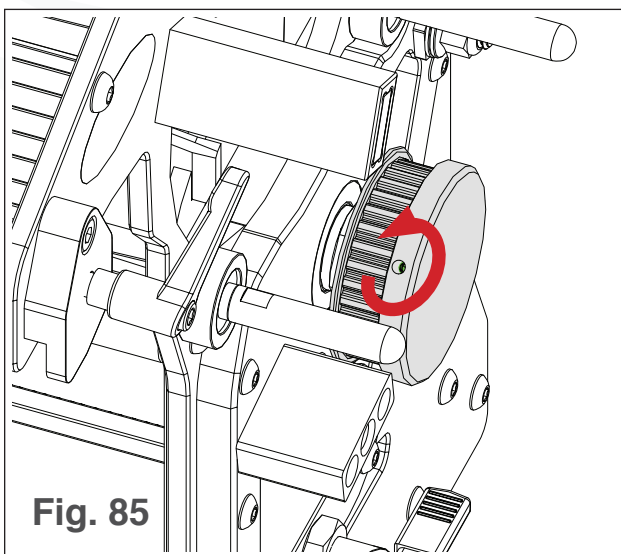

Fig. 85
3. Using a 2.5mm hex key, loosen the deeply set set screw in the blade pulley cap (see Fig. 85).